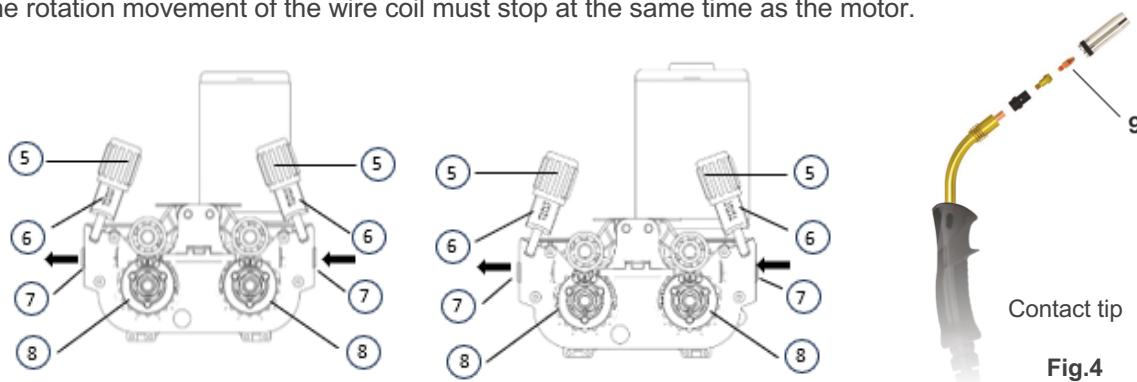

Fig.3
- The rolls (8- Fig.3) and the torch contact tip (9- Fig.4) must correspond to the diameter of the wire to be used.
- Drive the wire through the rolls (8- Fig.3) and the wire guide (7- Fig.3), advancing it by hand a few centimeters. Close the traction levers (6- Fig.3), checking that the wire is positioned on the groove of the roll. To adjust the pressure of the traction levers on the wire, the adjusting screw (5- Fig.3) must be carefully tightened until the wire is advanced. This adjustment must be completed with the machine in operation avoiding very forced adjustments that cause the wire to collapse.